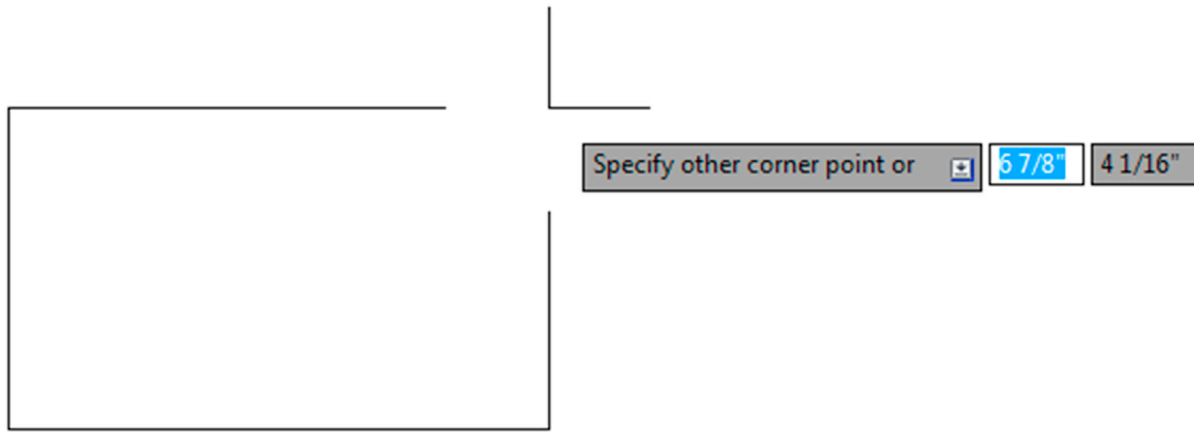

FIGURE 2.7 Drawing a rectangle with Dynamic Input.
To use Dynamic Input to draw a rectangle ($5'' \times 3''$ in this example), make sure DYNMODE is on, begin the command, and click anywhere to start the rectangle. You see fields in which to enter the values for the height and width (Fig. 2.7). As before, enter a new value in the first text field (5) and Tab over to the next field, entering the other value (3). As you press Enter, the $5'' \times 3''$ rectangle is created. Note of course that the first value is the width and the second value is the height.